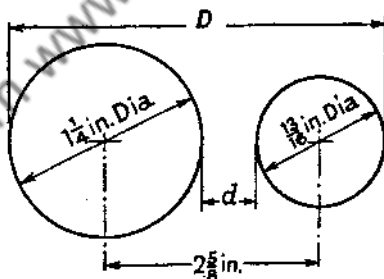

Fig. 2
(1) *Calculate the dimensions D and d shown in fig. 2.*